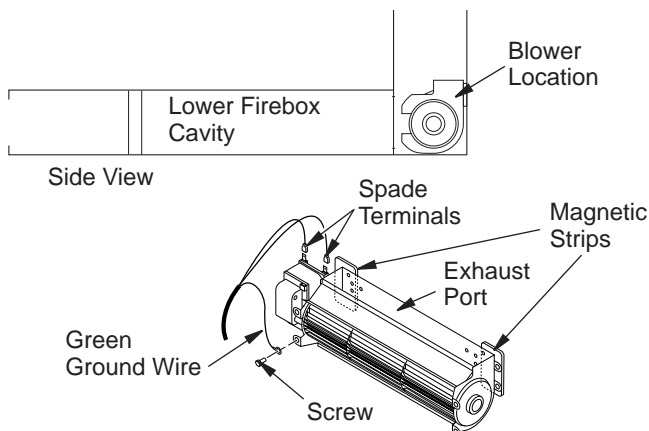

Figure 25 - Blower Model BK
1. Attach the power cord to the blower motor by firmly pushing the two female terminals at the end of the power cord onto the two spade terminals on the blower motor (see Figure 25, page 15).
2. Attach green ground wire from power cord to blower housing using screw provided (see Figure 25, page 15). Tighten screws securely.
3. Place the blower against the lower rear wall of the firebox outer wrapper with the exhaust port directed upward. The blower will fit inside the back opening and be held in position against the back wall by the magnets (see Figure 25).